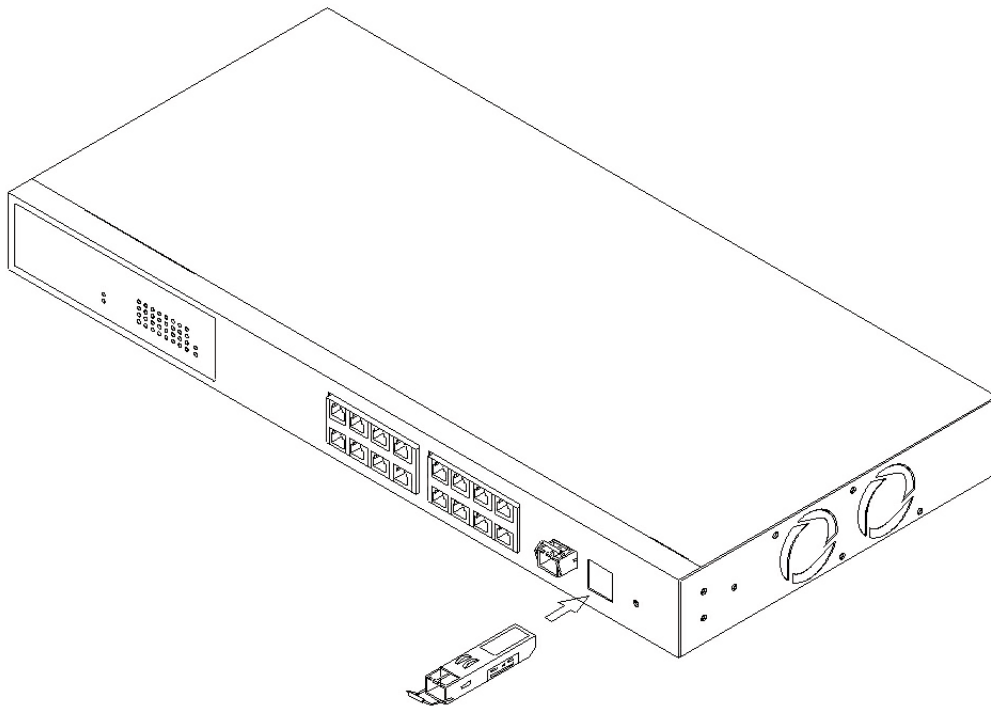

Figure 3-1. Installing an optional SFP fiber transceiver in the switch.
2. Slide the module into the slot as shown in Figure 3-1. Make sure that the module is properly seated against the slot socket/connector.